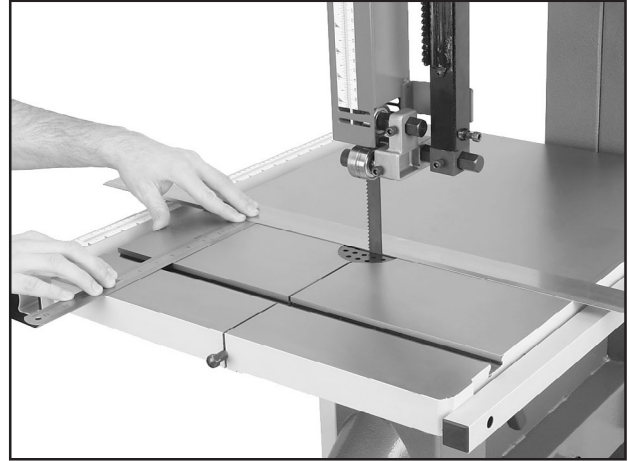

Figure 30. Example of measuring for miter slot to be parallel with blade.
5. Use a fine ruler to accurately gauge the distance between the straightedge and the miter slot. The distance you measure should be the same at both the front and the back of the table (see **Figure 30**).